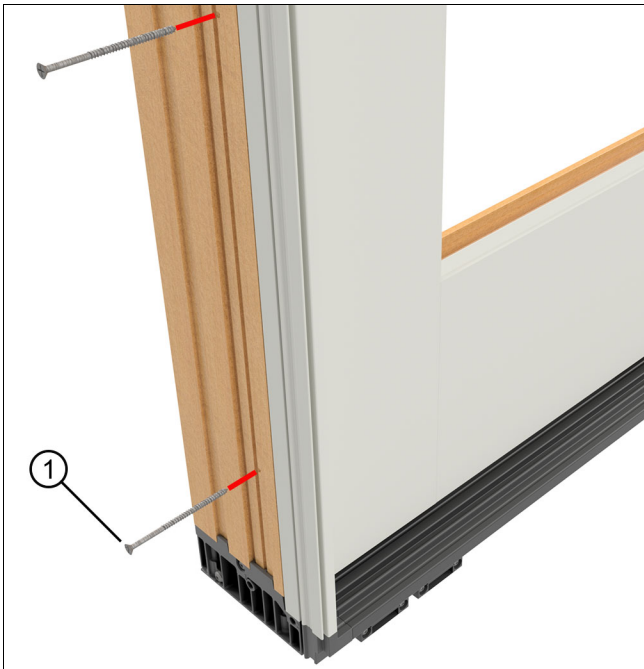

Figure 55
9. Fasten the jamb to the panel with the #8 x 3" flat head screws. See Figure 55.